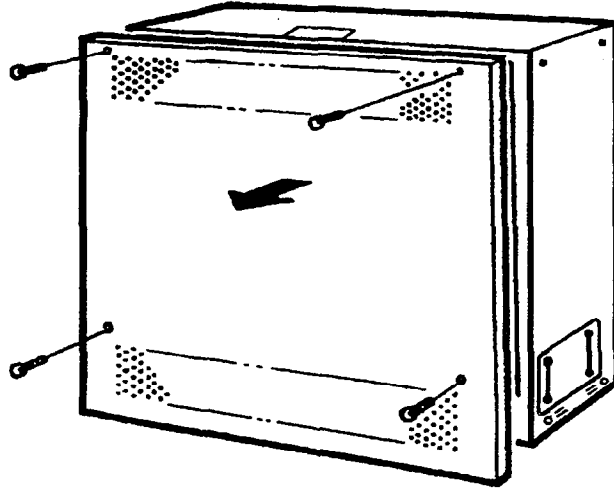

Figure 2-11 Removing the KSU Cover
1. Loosen the four screws on the front cover and remove the cover panel. Refer to Section 3.3.2 - Opening the KSU Cover and to Figure 2-11 - Removing the KSU Cover.